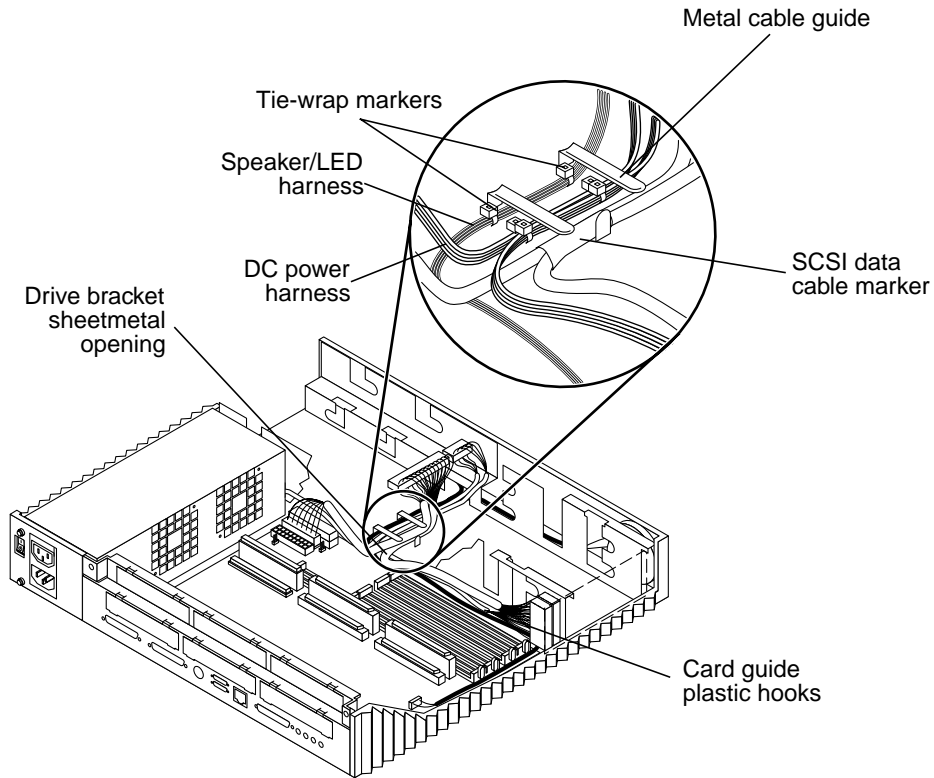

FIGURE 8-32 Cable Guide Detail
1. **Route the SCSI data cable as follows (FIGURE 8-32):**